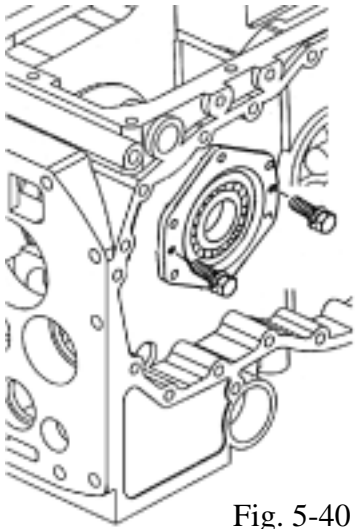

Fig. 5-40
a.Dismount diff-case (RH) and diff-case metal(LH) by installing push bolt as shown in Fig.5-40